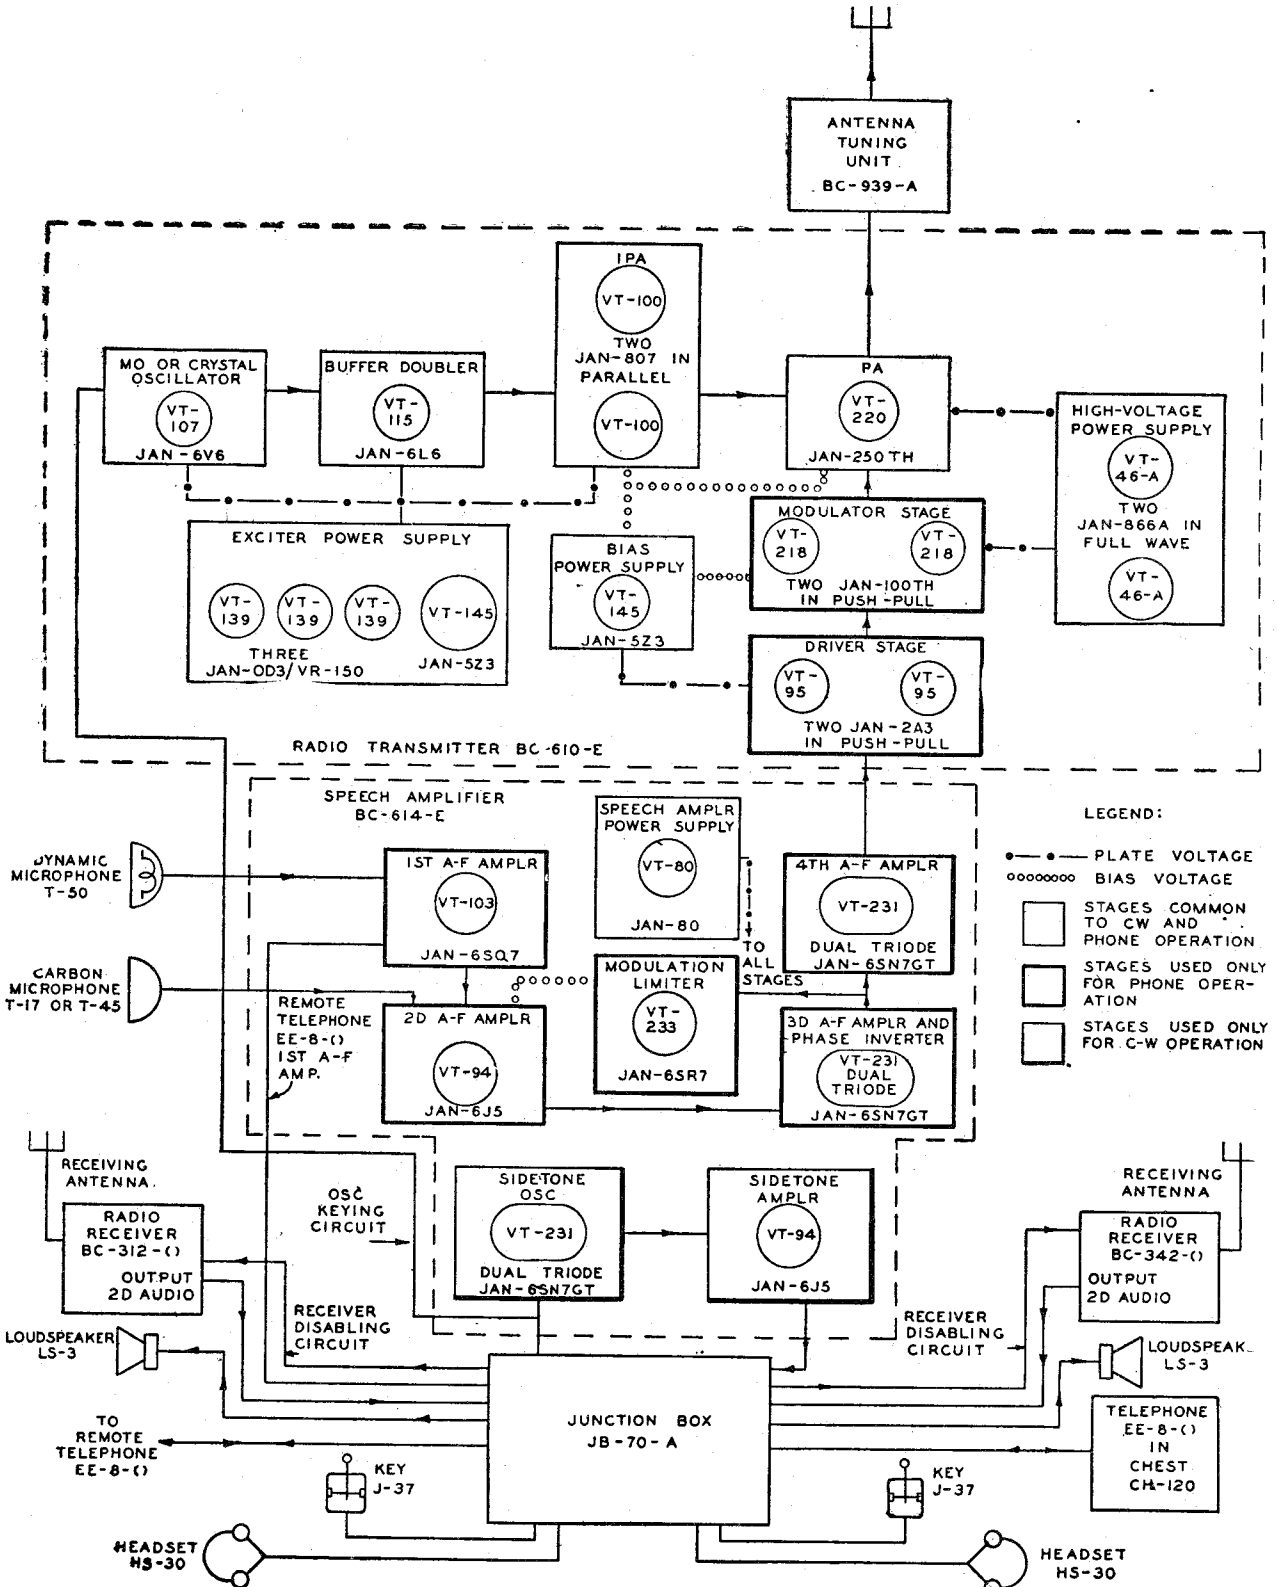

Figure 96. Radio Sets SCR-399-A and SCR-499-A—complete block diagram.
Figure 96, an over-all system block diagram, shows the complete function of Radio Sets SCR-399-A and SCR-499-A. The major components of the radio set are: Radio Transmitter BC-610-E, Antenna Tuning Unit BC-939-A, Speech Amplifier BC-614-E, Junction Box JB-70-A, and Radio Receivers BC-312-( ) and BC-342-( ). The signal paths are as shown in figure 96.
- (1) Block diagram of Radio Sets SCR-399-A and SCR-499-A. (See fig. 96.)